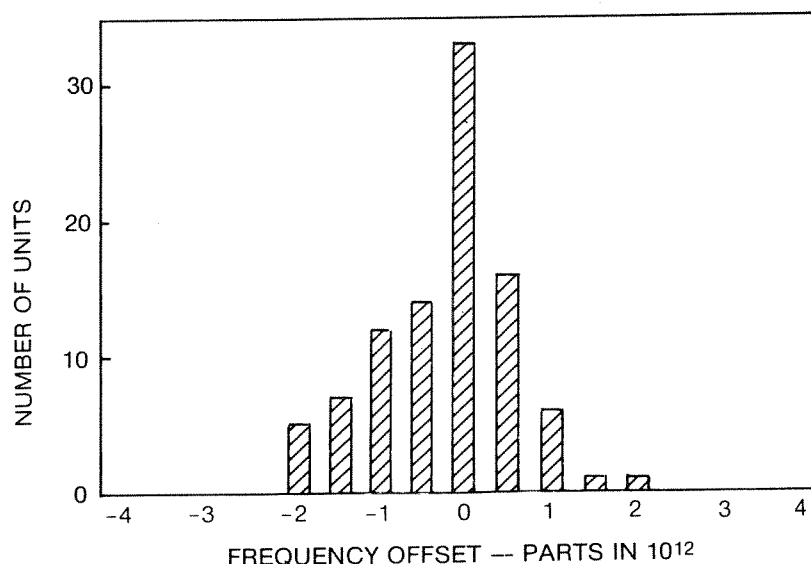

Figure 1-2. Frequency of Independently Aligned 5061A
- (1) See definitions, page 1-5
- (2) See Figure 1-2
- (3) With 10638A Degausser
- (4) Use 60 second time constant for increased short-term stability in controlled environments.
- (5) Over any  $\pm 2.5^\circ\text{C}$  Range at any temperature between 15 and  $35^\circ\text{C}$
- (6) With degaussing — Retrace is less than  $\pm 2 \times 10^{-12}$  without degaussing
- (7) For values of  $\tau(s) > 10^4$  seconds, instruments are not subjected to frequency stability testing on a regular basis. This portion of the curve (i.e.,  $\tau(s) > 10^4$  seconds) provides information useful in formulating applications for the HP 5061B.
| <p>Intrinsic Reproducibility</p> <p>The intrinsic reproducibility of the 5061B (see Figure 1-2) is the measure of the repeatability from one independently aligned unit to another. The small spread indicates that any HP 5061B with an Option 004 High Performance Tube will produce a frequency within <math>\pm 3 \times 10^{-12}</math> without calibration. The data was</p>                                                                                                           | <p>B. Short-Term stability is defined as the standard deviation of fractional frequency fluctuations due to random noise in the cesium standard. It may also be expressed as a standard deviation of phase. This specification must include the number of samples, the averaging time, the repetition time, and the system bandwidth.</p> <p>See "Statistics of Atomic Frequency Standards" by David W. Allan, Proceedings of IEEE, Feb. 1966. P. 221, and HP Application Note 116 for measurement details.</p> |